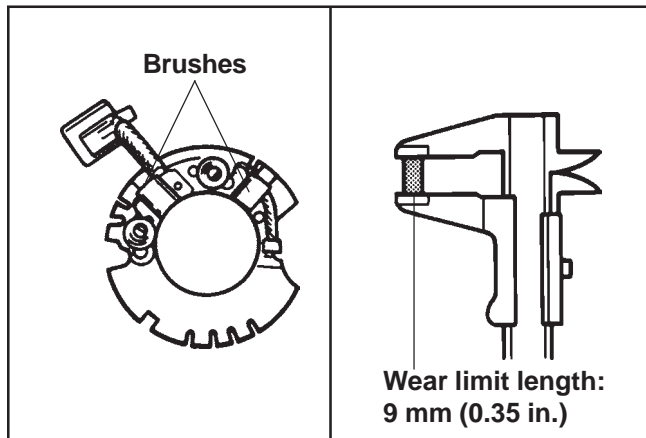

Figure 8-44. Brush Checking.
2. Inspect both the springs and brushes for wear, fatigue, or damage. Measure the length of each brush. The minimum length for each brush must be **9 mm (0.350 in.)**. See Figure 8-44. Replace the brush plate assembly if the condition of parts is out of specification or questionable.